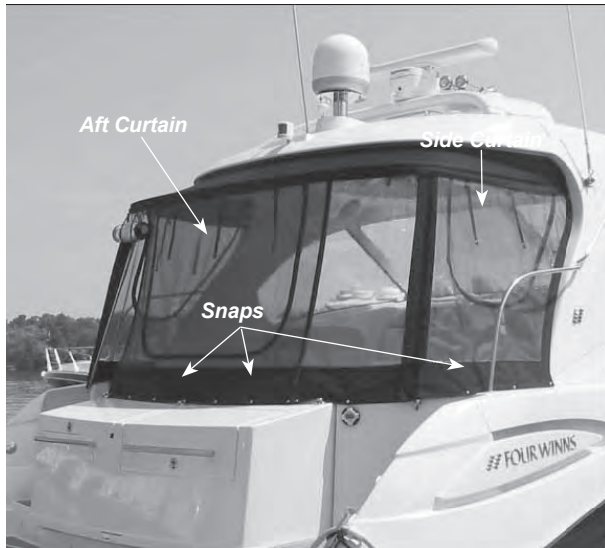

Figure O8: Aft Curtain
- 6) Zip the aft curtain to the canvas top, starting at one end. See Figure O8.